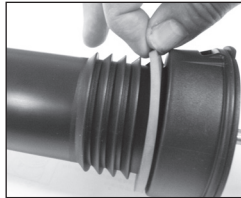

Figure 1
1. Inspect gasket. If worn or damaged, remove and replace. (See Figure 1)